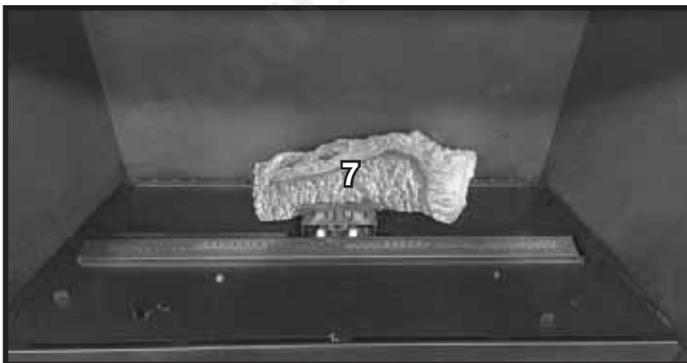

Figure 17. Place Log #7
17. Install Log #7 by setting it on the base pan behind the pilot hood and sliding it right until it contacts both placement tabs behind the burner. The placement tabs should be bent up at 90 degrees from the base pan. See Figure 17.